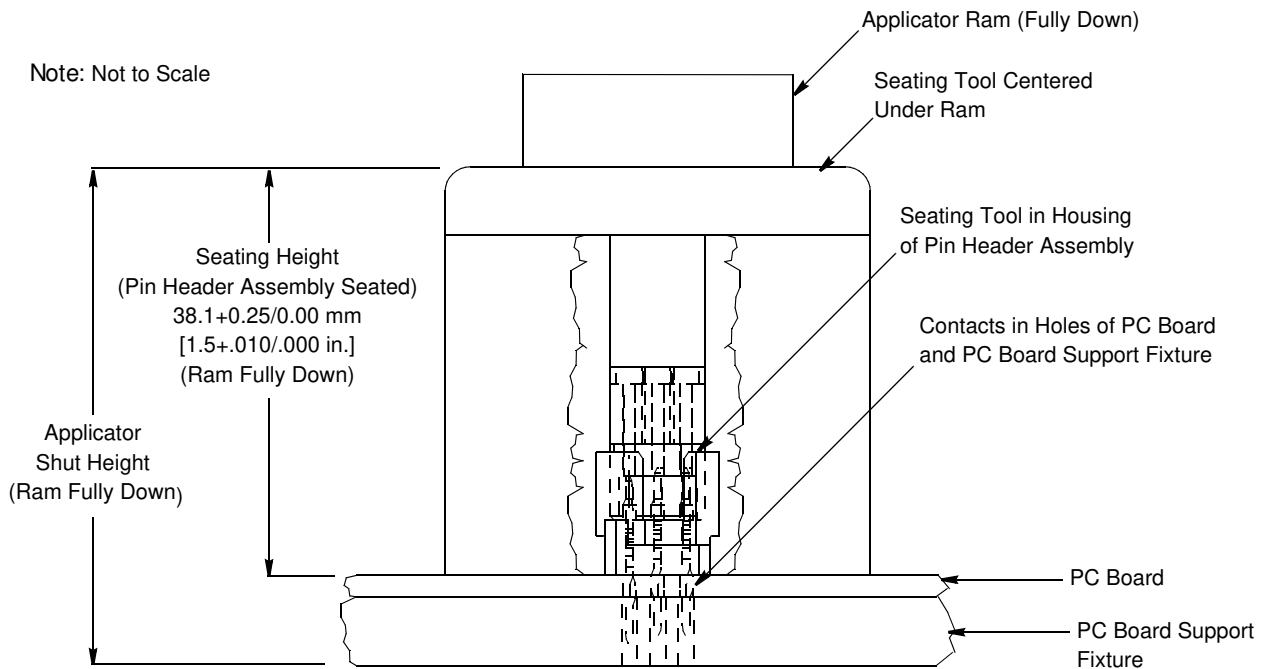

Figure 3
During seating, the seating tool sits inside the pin header housing (one way only) with the pin guide engaging the contacts, preventing contacts from bending during seating. See Figure 3.
1. Set the seating height to the dimension shown in Figure 3 (machine shut height will equal the seating height *plus* the combined thickness of the pc board and pc board support fixture).